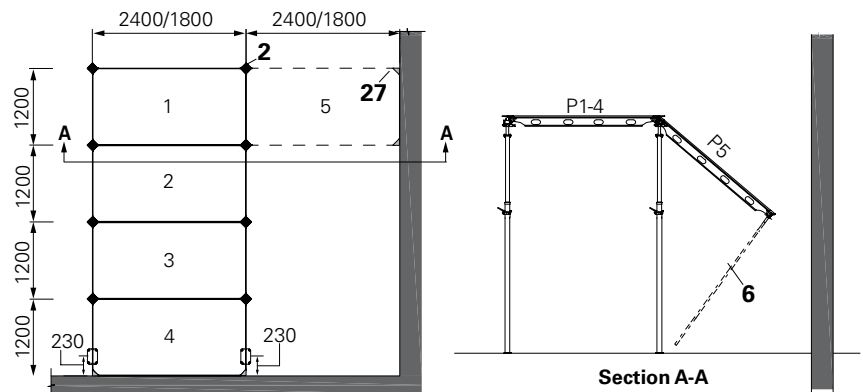
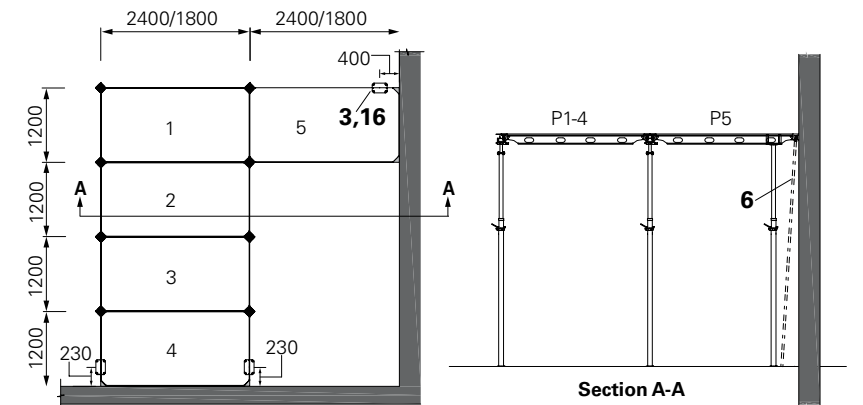
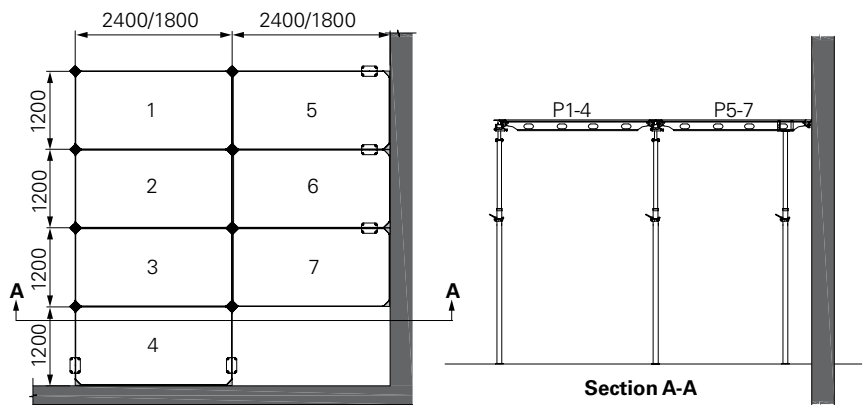
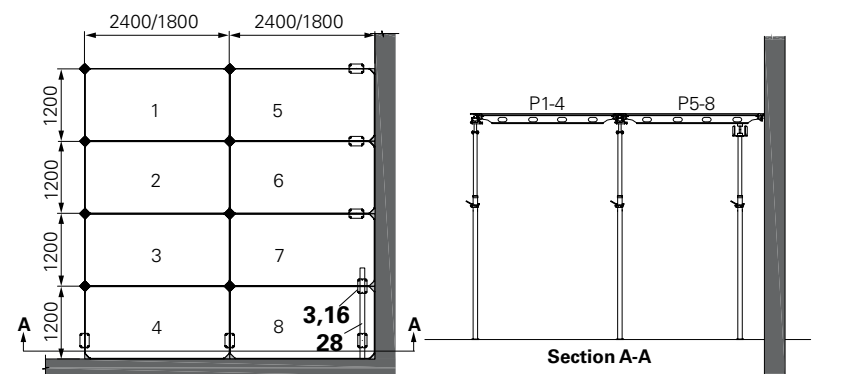

Fig. A6.10
Fig. A6.11
Fig. A6.12
Fig. A6.13
7. Hang the panel 5 along with the corner insert (25) onto the drophead ADH (2) flyplate pin. (Fig. A6.10)
8. Fix the shuttering aid AD (6) at the edge rail B (1.4) to swing up in longer direction. (Fig. A6.10)
9. Swing the panel 5 along with corner insert (25) upwards using the shuttering aid (6) and keep it as a temporary support.
10. Support the panel 5 at one end (longer direction) with prop (3) and crosshead ADC (16). (Fig. A6.11)
11. Once the prop support is set into position, remove the shuttering aid AD (6).
12. Repeat the steps 7-11 to install the panel 6 and panel 7. (Fig. A6.12)
13. Place the panel 8 along with corner insert (25) from the top.
14. Place the girder VT20 (28) with crosshead ADC (16) and prop (3) in the shorter direction of panel 8. (Fig. A6.13)